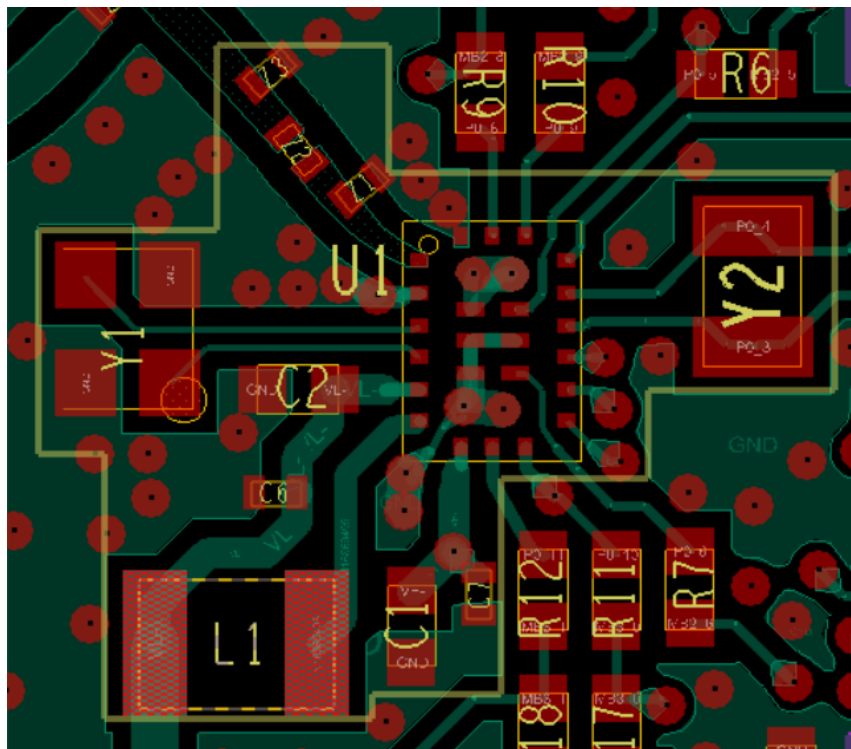

Figure 26: PCB Placement and Routing – Top Layer
- Connect pin 19 to GND with vias as shown in Figure 26
- Short 20, 21, 23 GND pins together and use two GND vias, as shown in Figure 26